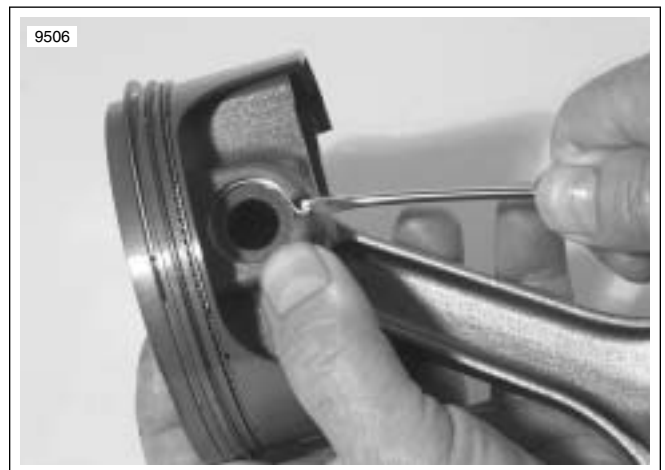

**Figure 3-204. Remove Pistons**
13. See Figure 3-204. Carefully push piston and rod out top of cylinder. Avoid contacting piston jet. Do not let the connecting rod contact the cylinder liner wall.